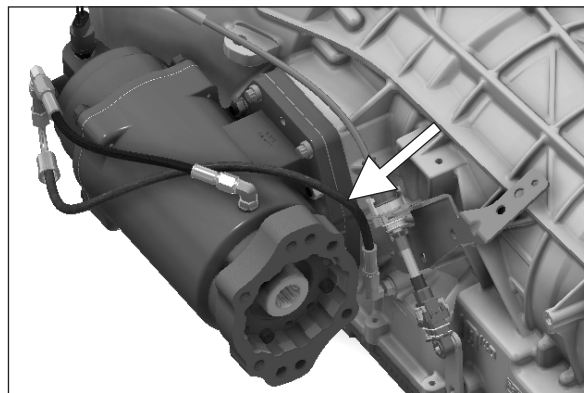

Figure 39
9. Connect hose to the fitting on the transmission. Chelsea recommends all hoses be routed above the PTO as shown in **(Fig. 39)**. Some large pumps may require lube hose to be routed below the PTO due to clearance to the transmission fitting. Hold hose fitting in desired position and tighten lock nut with a wrench until solid feeling is encountered. From that point, apply one-sixth turn. Next, connect the other end of the hose to fitting on the PTO valve cap. Tighten until solid feeling is encountered. From that point, apply one-sixth turn.